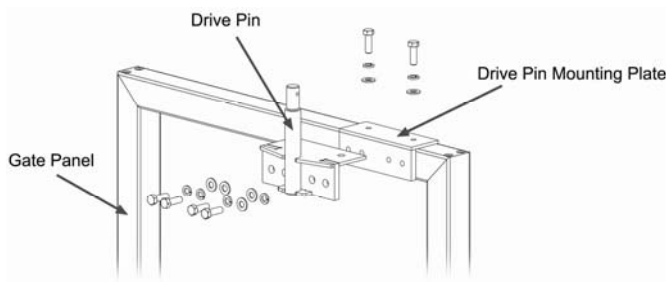
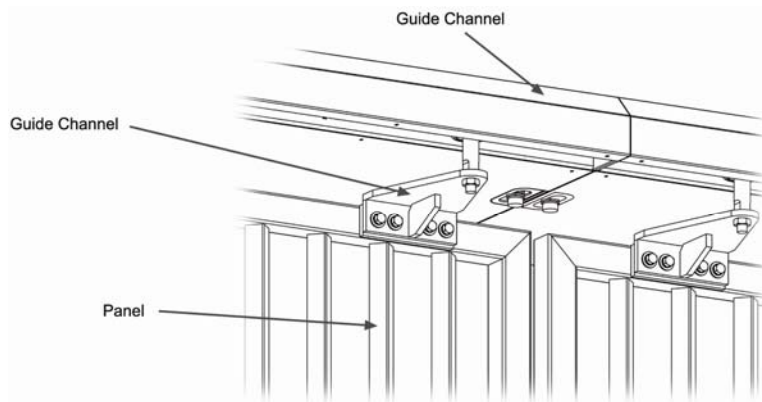
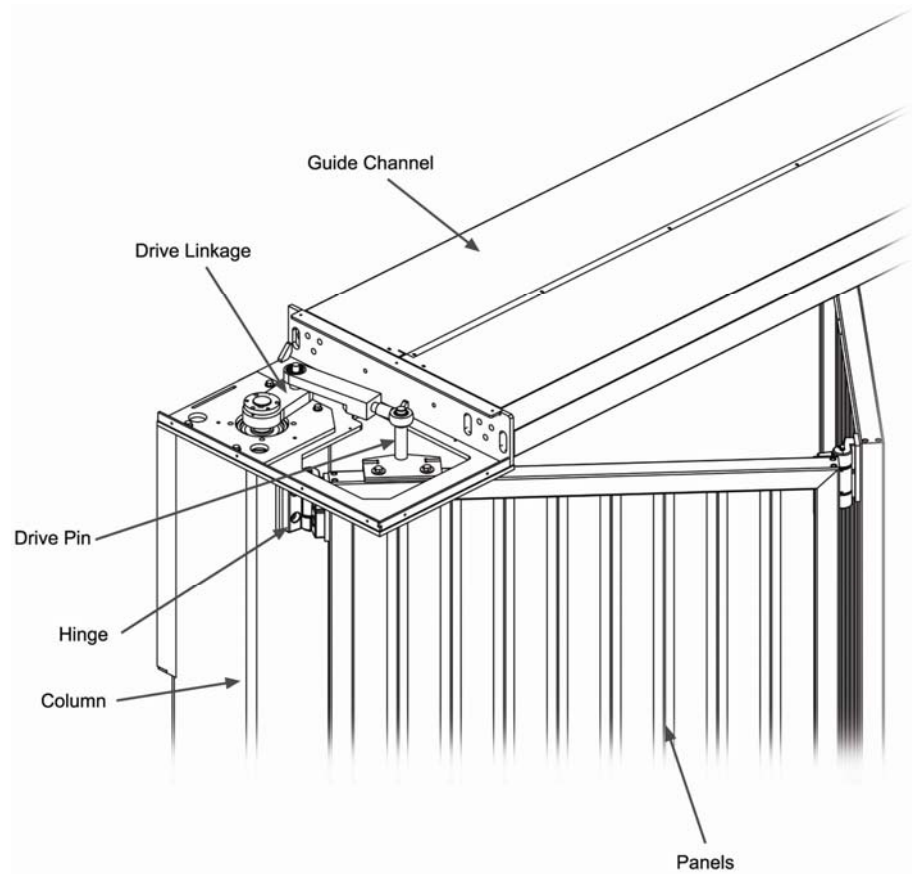

FIGURE 4.7
FIGURE 4.8
FIGURE 4.9
- Once the gate panels have been installed the guide wheel and the drive pin can be installed. Install the drive pin before the guide wheel is installed (See figure 4.7). The attached gate panel should be moved so that the drive pin can be installed (See figure 4.9). Once the drive pin is installed the gate panel will have to be moved with the motor brake disconnected (See Section Manual Operation). Move the outer gate panel under guide track, once you have moved the panel insert wheel into the guide channel track and bolt it to the guide roller mounting plate using the provided  $\frac{1}{2}$ " bolts. (See figure 4.8)